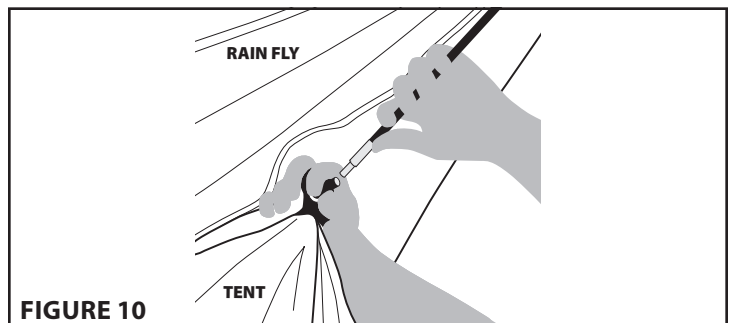

FIGURE 10
3. Starting at one corner, insert the male end of the short poles attached to the rain fly into the female end of the roof pole. Repeat this for all four corners. [**SEE FIGURE 10**]